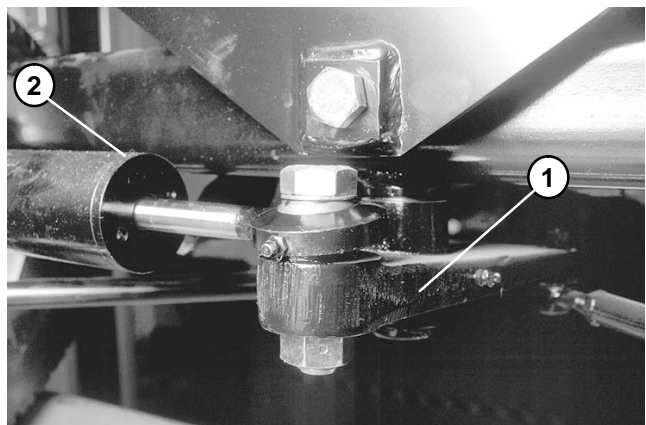

Figure 2
- A. On 2WD models, place jack securely under the pivot bracket for the steering cylinder (Fig. 2).